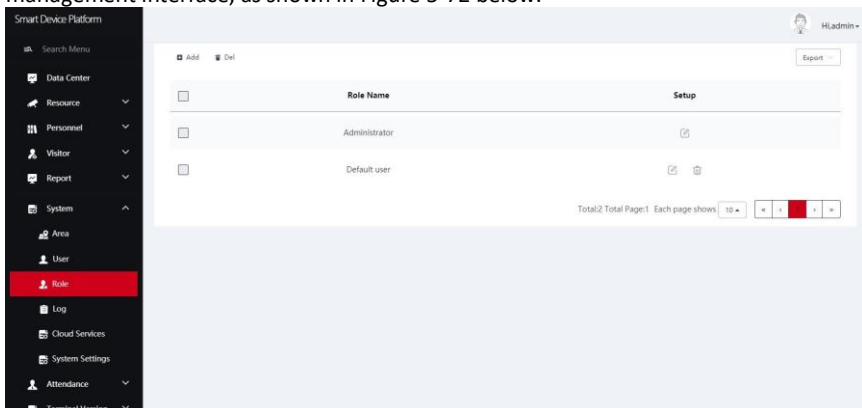

Figure 5-72
Step 1: In the smart device platform interface, click "System→Role" to enter the role management interface, as shown in Figure 5-72 below.